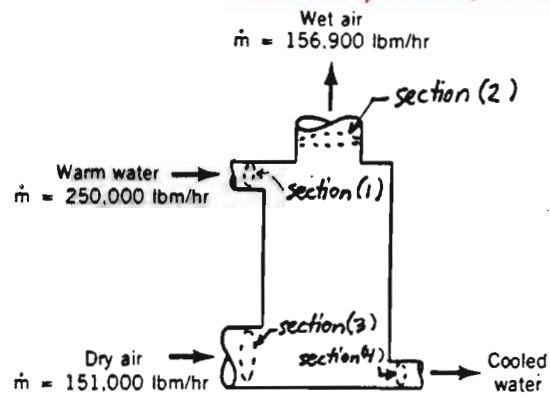

FIGURE P5.14
5.14 An evaporative cooling tower (see Fig. P5.14) is used to cool water from 110 to 80 °F. Water enters the tower at a rate of 250,000 lbm/hr. Dry air (no water vapor) flows into the tower at a rate of 151,000 lbm/hr. If the rate of wet air flow out of the tower is 156,900 lbm/hr, determine the rate of water evaporation in lbm/hr and the rate of cooled water flow in lbm/hr.